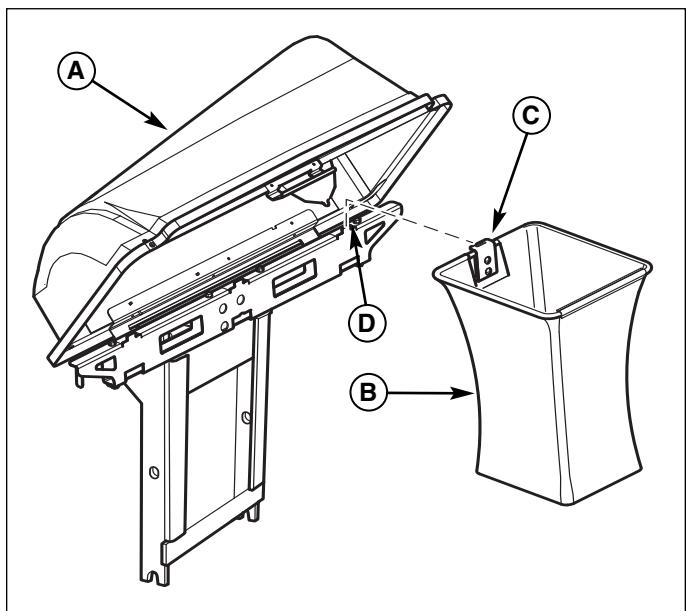

Figure 10. Install Collector Bags
1. Raise the collector cover (A, Figure 10).
2. Attach the collector bags (B) using grass bag hanger (C) to bag hanger post (D).